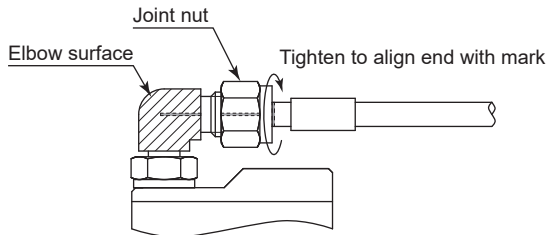

Fig. 26
- (2) Fit an adjustable wrench on the elbow surface (shaded area) of the high-pressure coolant fitting to hold it in place, and use another adjustable wrench to tighten the joint nut to its original tightening position. (Check that the matching lines are aligned and the end of the joint nut is aligned with the mark on the hose). (Fig. 26)